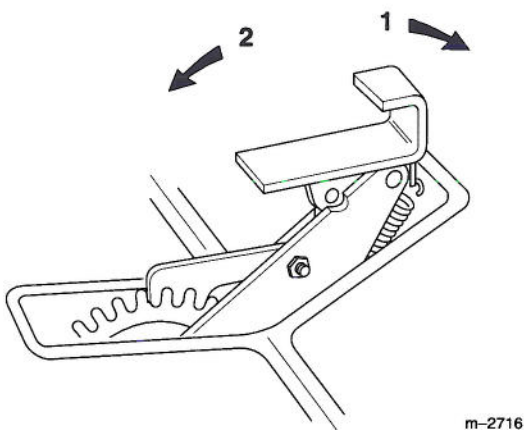

Figure 10
The attachment lift (Fig. 10) is used to raise and lower attachments.
1. Place your foot on the lift pedal (Fig. 10).
2. Push down with your foot, release the lock by rocking the pedal with your heel, then release foot pressure to lower the attachment lift (Fig. 10). Remove your foot to hold the attachment in the down, or desired position.